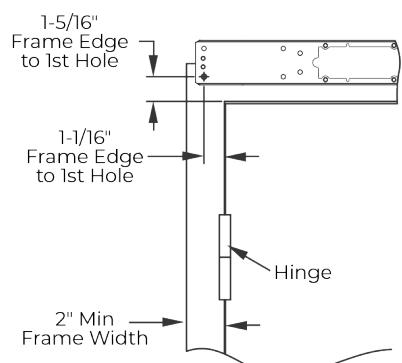

Figure 2 Right Hand Shown
- Measure, mark, and drill the first mounting hole according to the template (available for download from www.nortonrixson.com). (Figure 2)